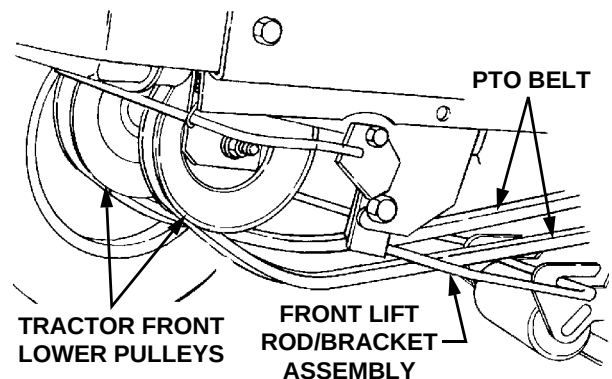

Figure 38
14. Twist the two sides of the PTO belt 1/4 turn inward to engage the narrow sides of the belt into the grooves of the two tractor front-lower pulleys (Refer to Figure 38).